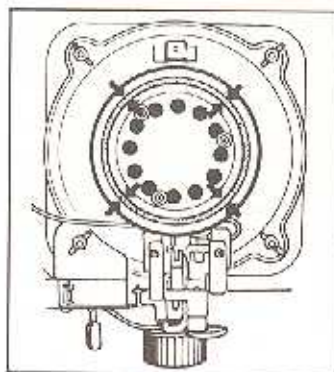

Fig.20
- (12) Insert the wick holder assembly with the new wick into the wick guide cylinder so that the wick control shaft points to front.
- (13) Tighten each two diagonal wing nuts simultaneously so that the gap for up and down movement of the wick is even throughout (Fig.20). Connect the lead wire for the glow plug.